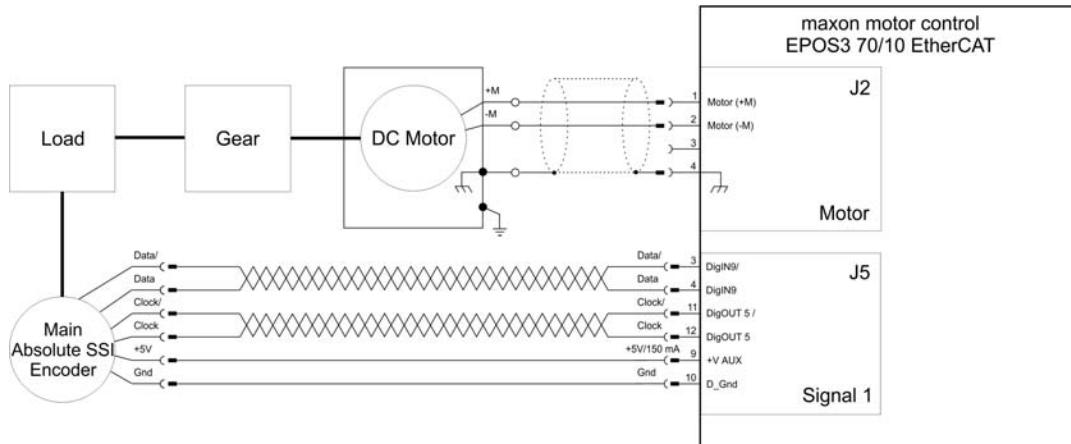

Figure 9-101 Example 1 – Wiring Diagram
- 1) Wire the system according to the wiring diagram (→Figure 9-101).